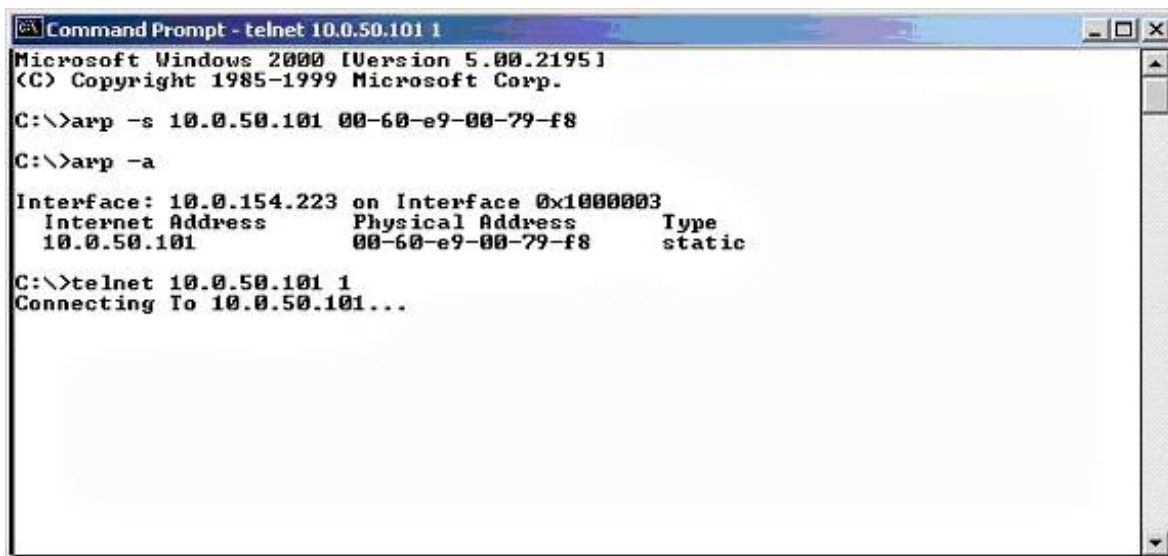

Figure 3.27. Assigning a new IP address by ARP command
2. Change to new IP via telnet port 1 (Figure 3.27)